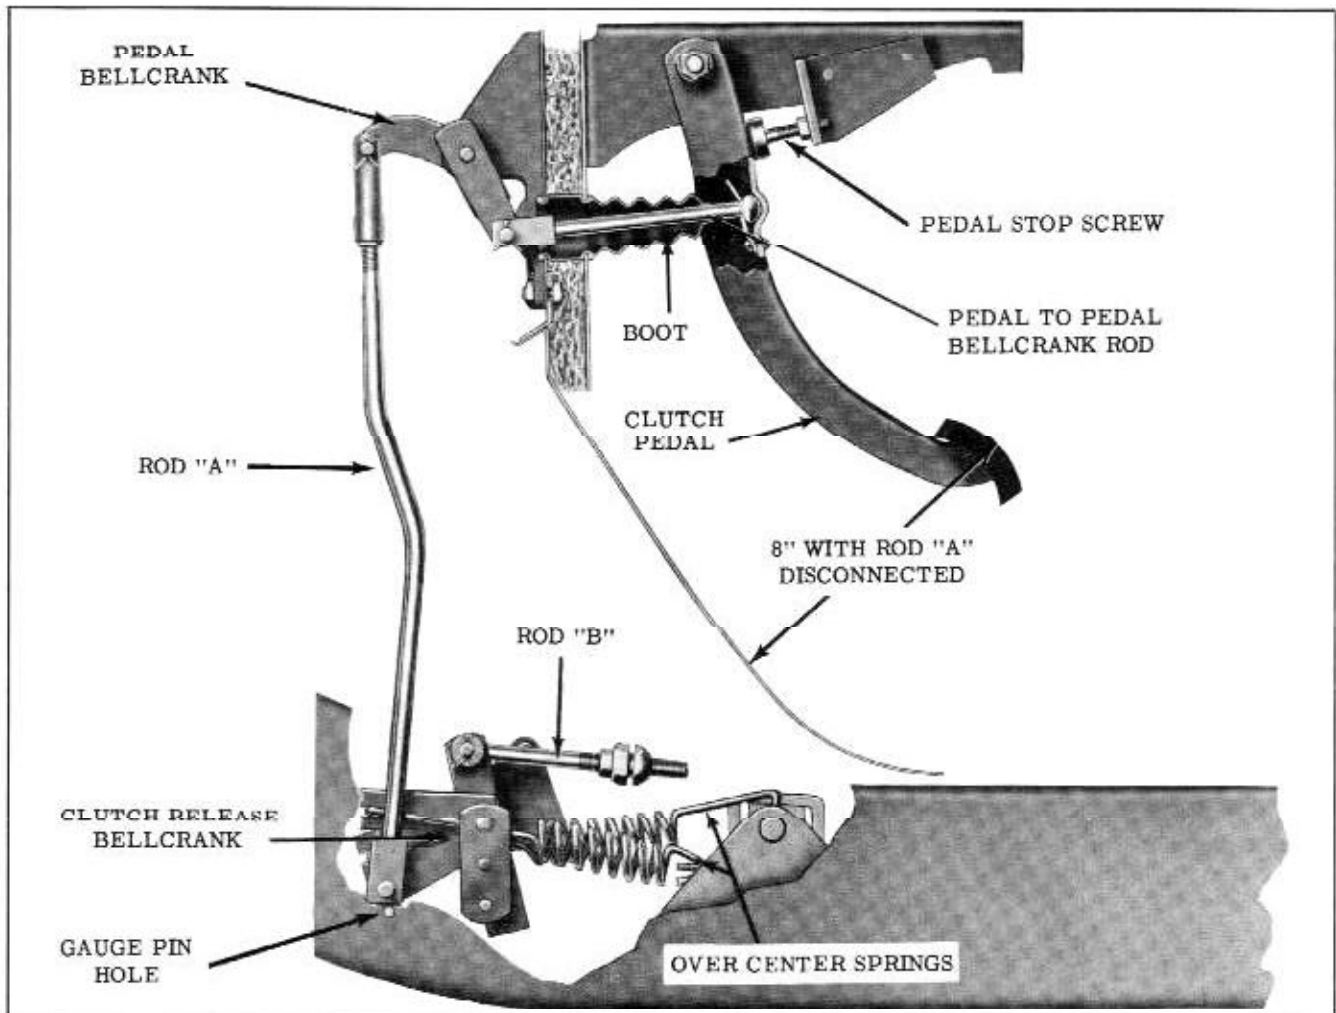

Fig. 10-2 Clutch Linkage
CLUTCH LINKAGE (Fig. 10-2)
1. Install 1/4" gauge pin in frame. (Fig. 10-2)